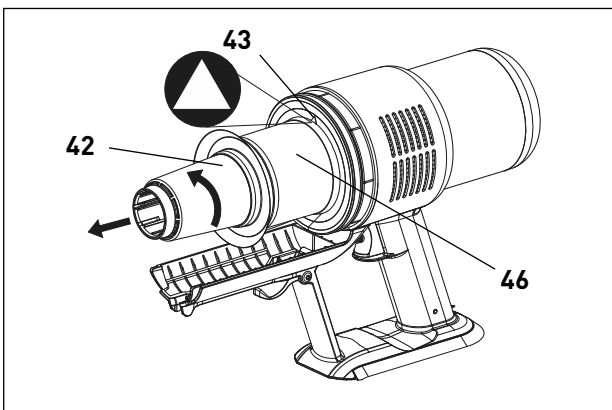
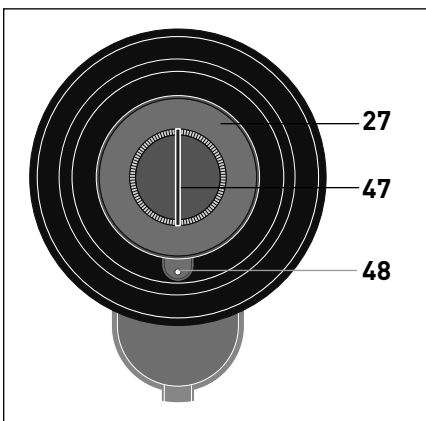

Figure 17
Figure 19
Cleaning out the Cyclone Unit - Figures 13-18 - Dust can accumulate in the cyclone unit (42). To remove the cyclone unit for cleaning, remove the adapter and dust bin (figures 13-16). Unlock the cyclone unit by gripping the front plastic cone and turning counterclockwise until the arrow (43) aligns with the open lock symbol (44) on the housing (figures 17 & 18).
Changing the Motor Protection Filter - Figures 13-19 - To remove the motor protection filter (27), remove the adapter and dust bin (figures 13-16). Remove the cyclone unit (figures 17 & 18). The filter can be simply pulled out with the handle (#47 figure 19). When inserting the new filter, line the notch (48) on the filter with the indentation on the filter housing.
Changing the Micro Hygiene Filter - Figures 13-17, 20 - To remove the micro hygiene filter (28), remove the adapter and dust bin (figures 13-16). Remove the cyclone unit (figures 17 & 18).